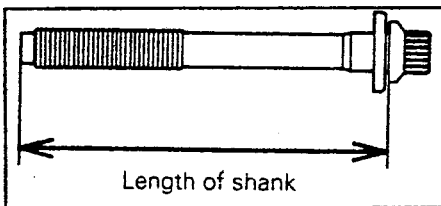

Fig. 1.48. — Main bearing cover bolts must be measured as shown. Reject bolts of less than 71.1 mm in length.
- Measure the length of all bearing cover bolts, but not from end to end, but as shown in Fig. 1.48. Bolts stretch in use and any bolt longer than 71.1 mm (use "mm" equipment to measure) must be replaced. Immediately coat the threads and the underside of the bolt head with engine oil. Note that the bolt heads have a special serration, i.e. a special socket may be required.